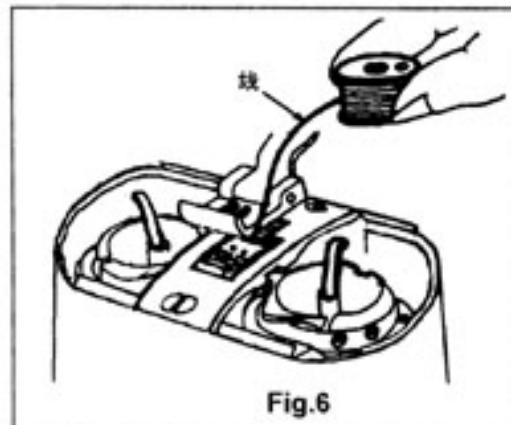

Fig.6
8. How to place the Bobbin into the Hook (Fig.6):
Pull the bobbin thread about 5cm. Hold the bobbin as shown in fig.6, then place the bobbin into the hook base.